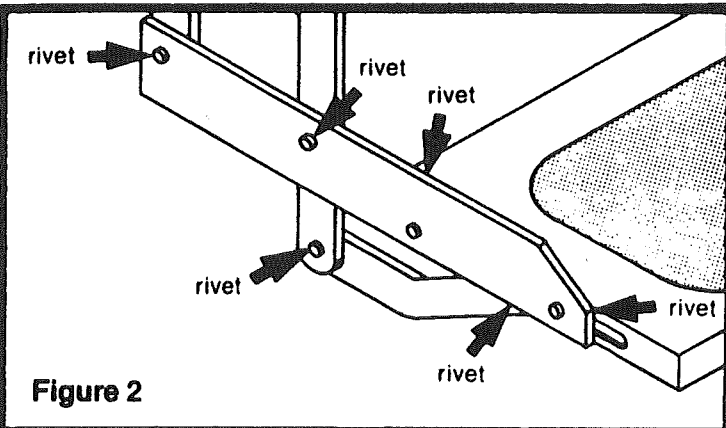

Figure 2
2. Remove the two (2) screws (Item #12) from the connector (Item #18 and #19) on the motor leads between the motor and the control unit. Remove the seal assembly (Item #20). **CAUTION: Make note of how the wires and connectors are assembled for reassembly later. The wire connectors may be assembled wrong even though the colors match.** (See Figure 2 on page #8).
6. **MOTOR REMOVAL:** The motor (Item #5 or #5A) may be removed without removing the gear box or linkage assembly simply by removing the three (3) screws (Item #4) along with the bearing bracket (Item #2).
9. Turn the gear box assembly over and remove the four (4) 1 1/4" long #10 self tapping screws (Item #13) from the gear case. Lift off the mounting plate (Item #16)